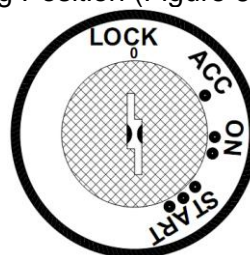
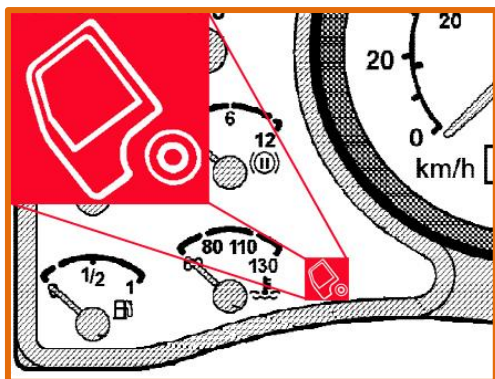

Figure 6.2
Figure 6.3
- ✓ With key in **ON** position (Figure 6.2), make sure Cab Tilt warning light is not illuminated on the dash panel (Figure 6.3).